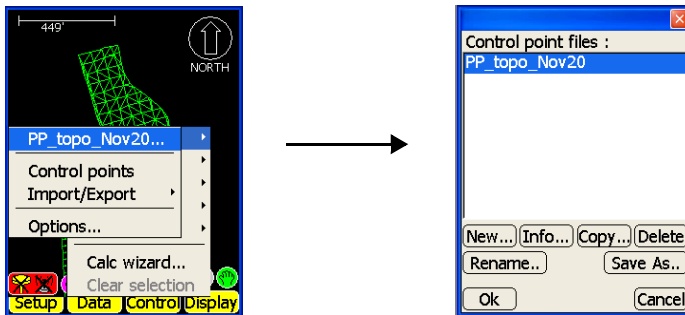

Figure 4-16. Select Control Point File
2. On Pocket-3D, press **Data ▶ Control** and select the correct Control Point file, then press **Ok** (Figure 4-16).